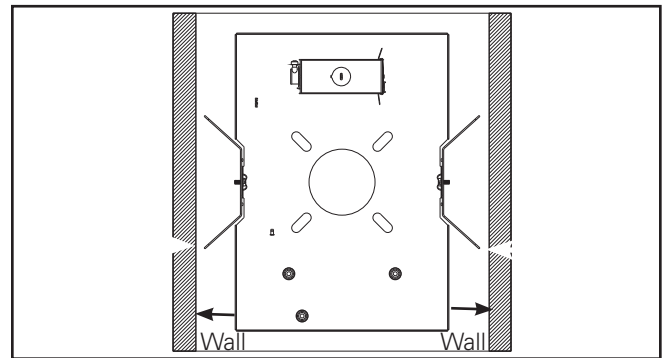

Figure 8
1. For wall wash trims, install frame as shown. (see Figure 8).